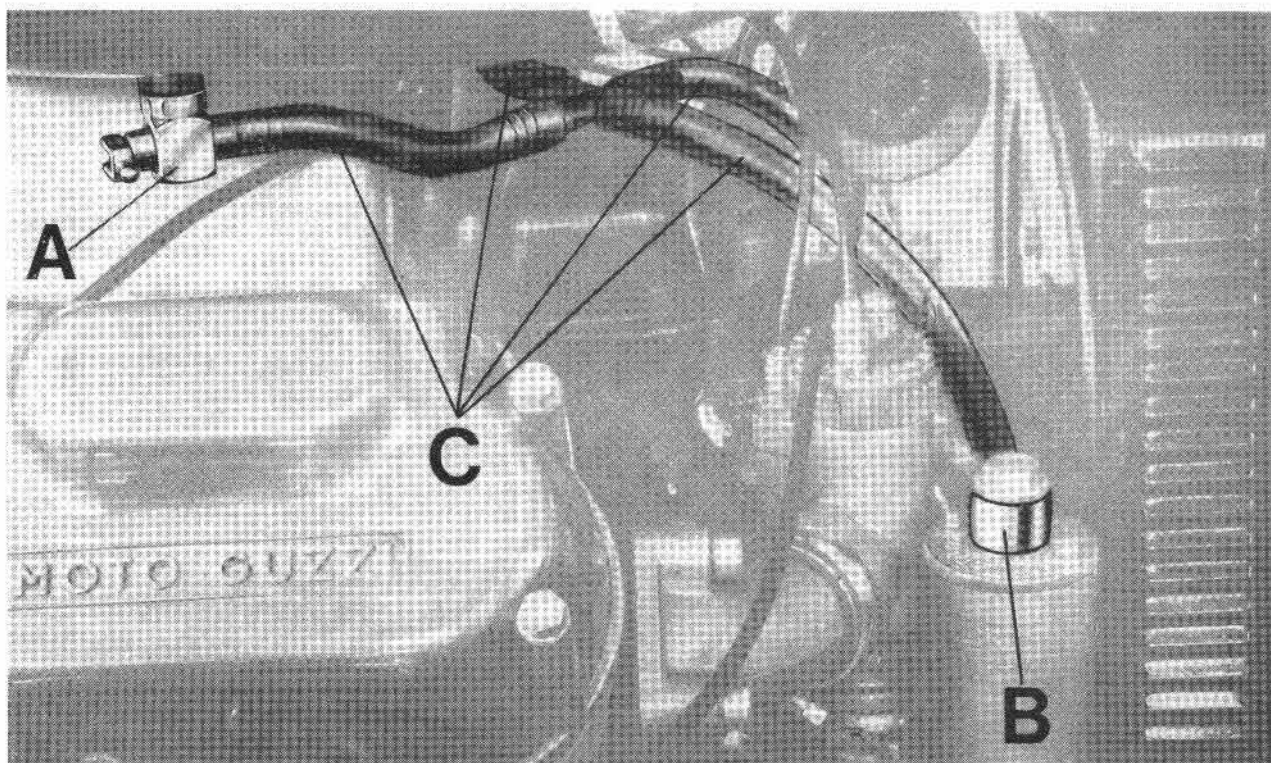

Fig. 65
veying same to four-way adapter and from here to carburetor filters (B). See Fig. 65.